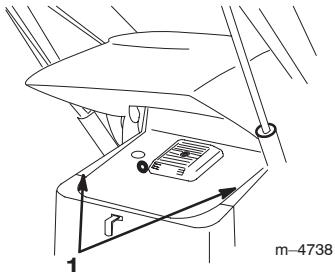

Figure 19
2. Slide the side screens (Fig. 19) up and out of the slots in the front screen and frame.
Slide the side screens (Fig. 19) into place in the slots in the front screen and frame.